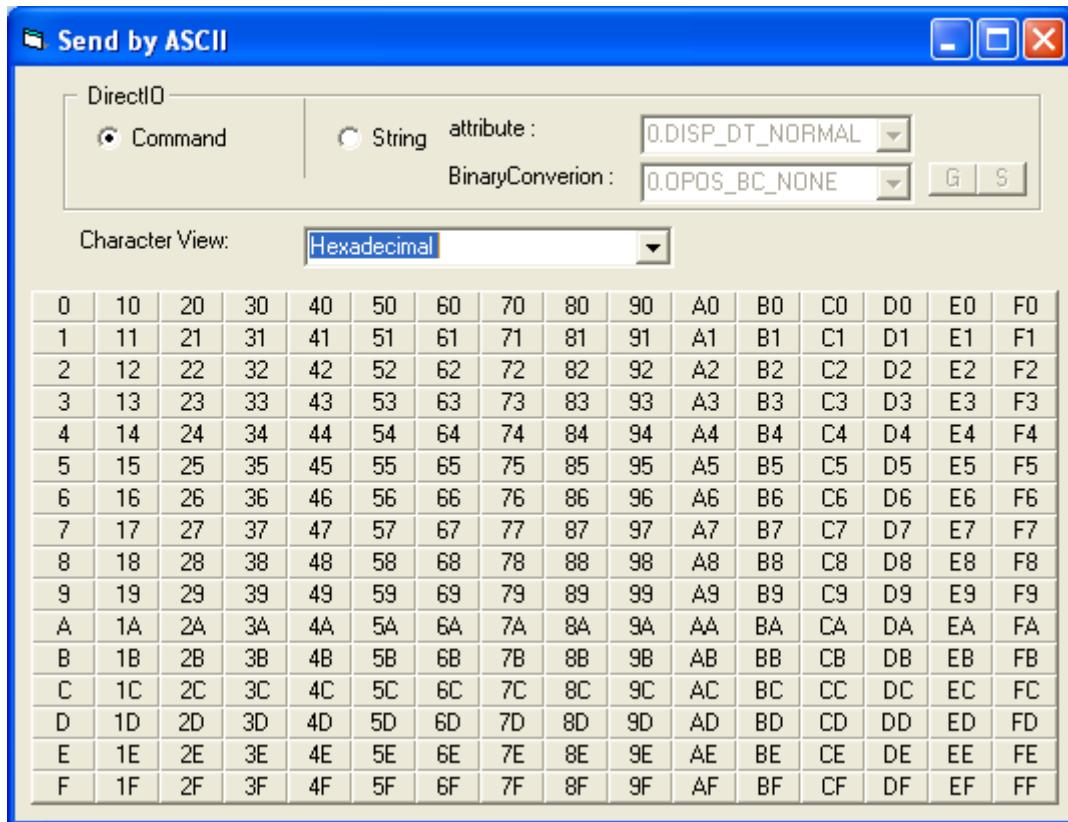

Figure 6-3.
**E. DirectIO for Specific Device, seen figure 6-3.**